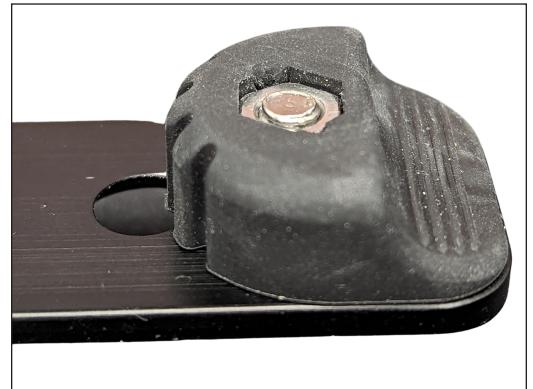

Fig. 8
5. Continue to tighten the screw until approximately one screw thread is exposed through the hex nut within the rubber foot. (Fig. 8)